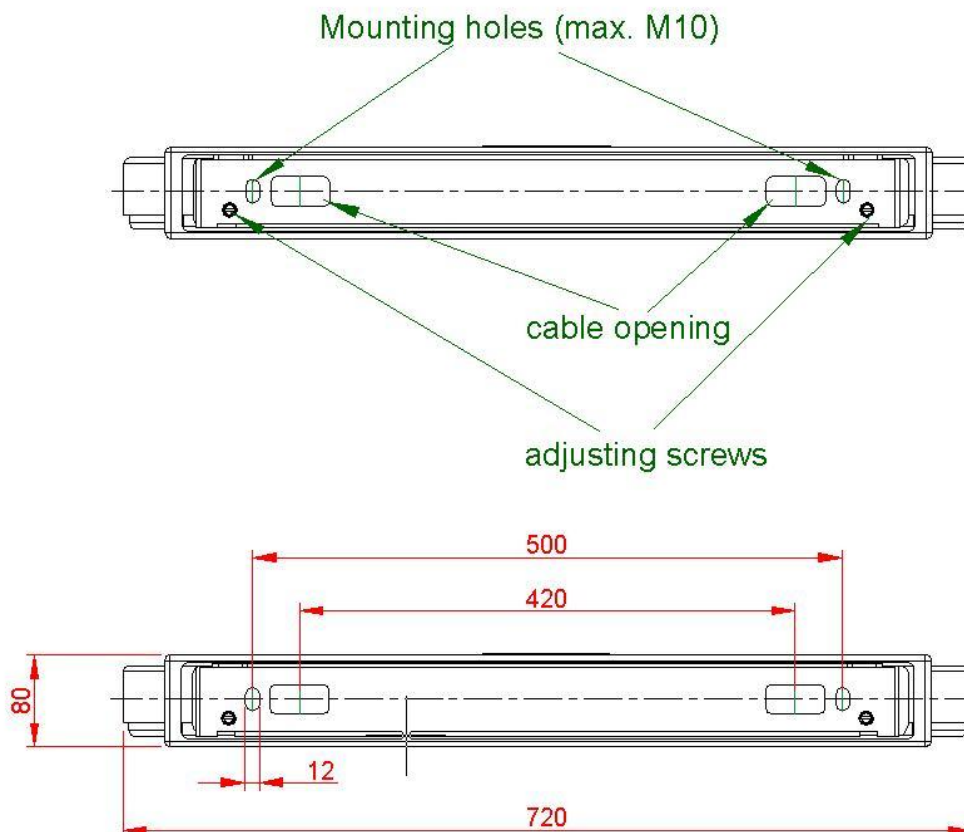

Fig. 4: Floor plate dimensions ①
If the position of the antennas has been marked or determined, the antenna base ①, which has to be used as a hole template, can be used to mark and drill the mounting holes and the holes for the cable entry. The dimensions are shown in Fig. 4:
Two cable openings are provided for the necessary connection cable (see Fig. 4). The cable openings are dimensioned such that up to 10 cables having a diameter of 6 mm can be passed through each opening.